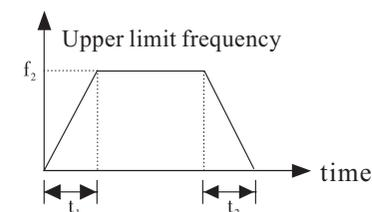

Figure 5.1 Accel./Decel. time diagram
- As the following Figure 5.1 shows, acceleration time can be set as: time needed when output frequency is accelerated from 0 Hz to upper limit frequency (set by F015).
- As the following Figure 5.1 shows, deceleration time can be set as: time needed when output frequency is decelerated from upper limit frequency to 0 Hz.